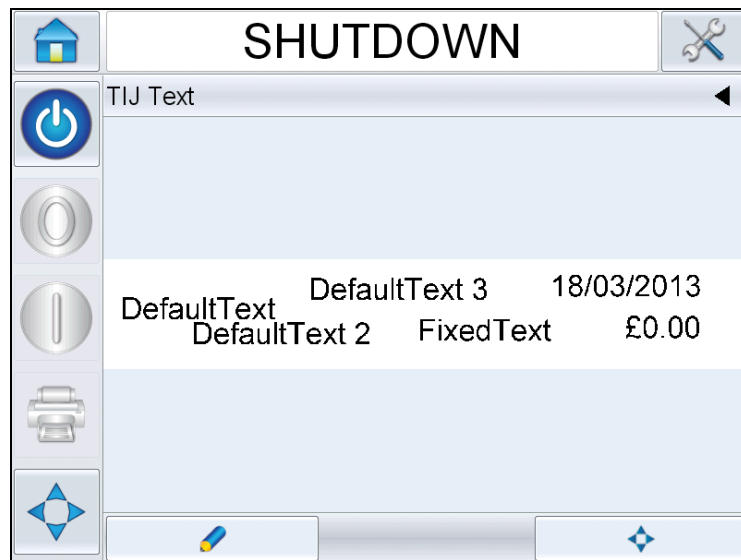

Figure 6-22: Message preview
- 1 Select the 'Current Job Details Bar' to display the job preview (see Figure 6-22).